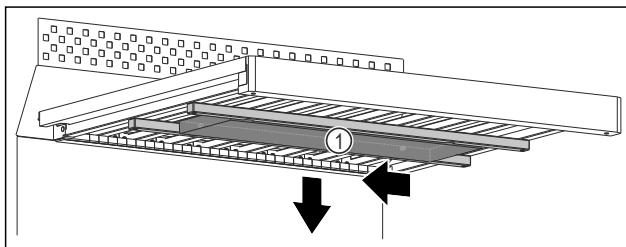

Fig. 111
- ▶ Push the water box Fig. 111 (1) to the left.
- ▶ Remove the water box Fig. 111 (1) downwards.